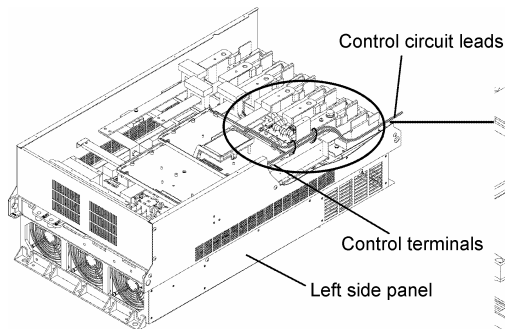

Figure 2-3-15
- (a) Pull the wiring out along the left side panel as shown in Figure 2-3-15.